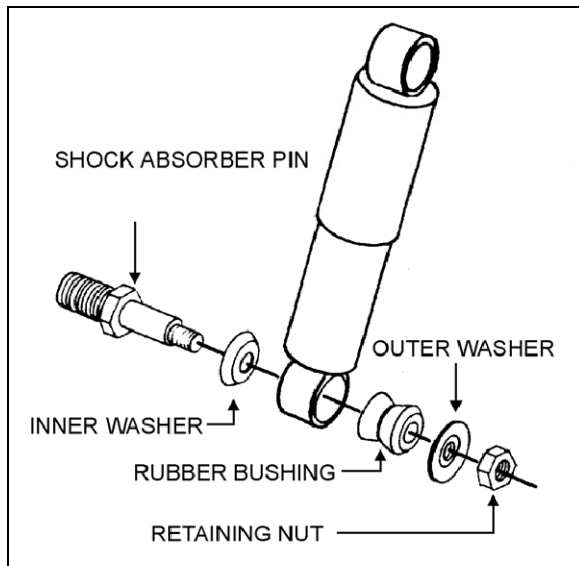

FIGURE 44: SHOCK ABSORBER
1. Remove nuts and washers from shock absorbers on upper and lower mounting pins, taking care to identify the inner and outer washers to ease reinstallation. Refer to figure 44 for details.